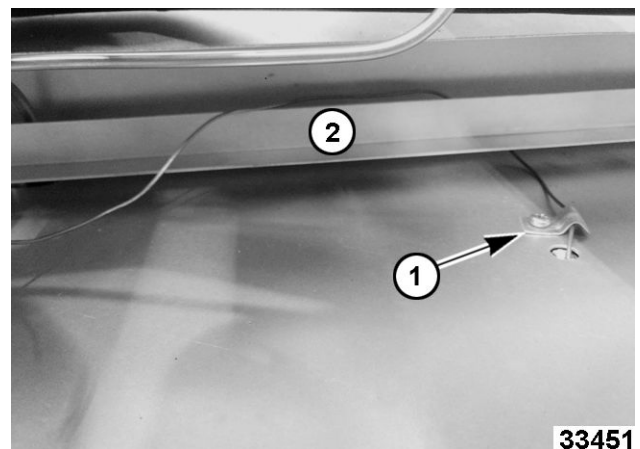

Fig. 18
5. Remove capillary tube clamp (1, Fig. 18).
6. Remove capillary tube from around guard (2, Fig. 18).